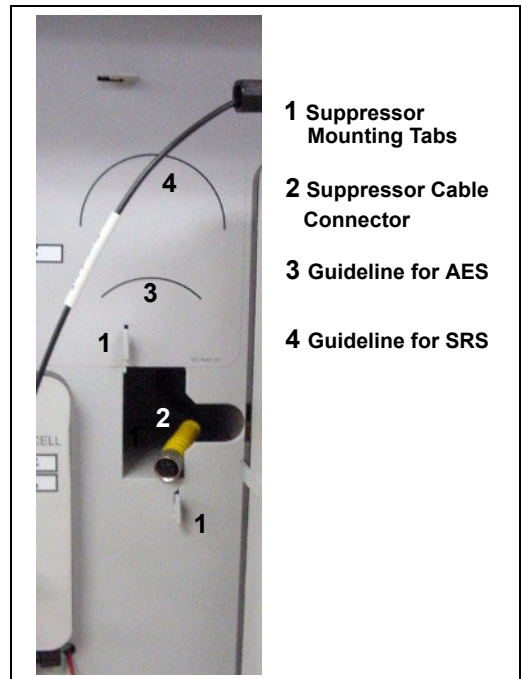

Figure B-19. Suppressor Mounting Tabs and Guidelines
1. Locate the suppressor mounting tabs on the component panel (see Figure B-19). Reach into the opening between the tabs and pull the yellow connector and attached cable slightly out of the opening.
5. Align the top of the suppressor with the guideline printed on the component panel (see Figure B-19) and align the slots on the rear of the suppressor with the tabs on the panel.